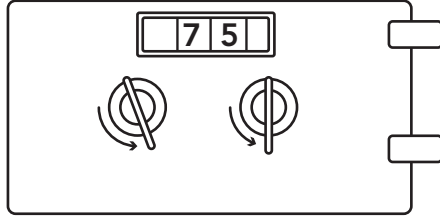

FIG. 2
2. After the door is open you should turn the guard key again the same direction you did to open it until it stops. (it will move about another 1/16 of a turn) (Figure 2)